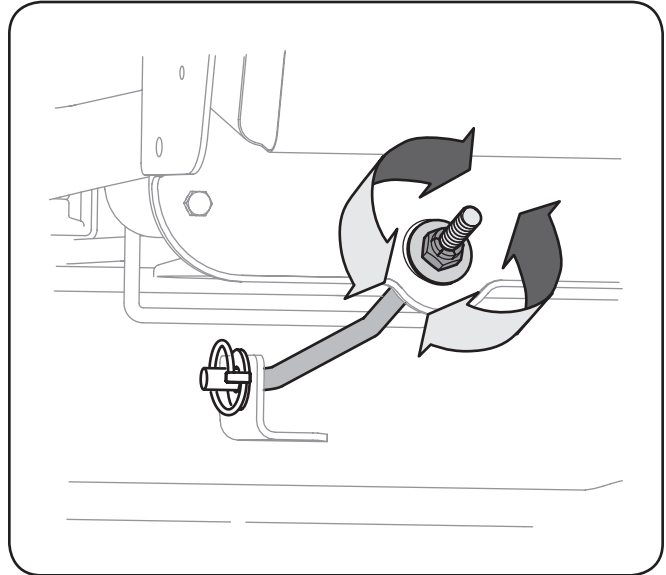

Figure 6-5
2. To *lower* the front of the deck, loosen (thread outward) the lock nut, away from the front hanger bracket. See Fig. 6-5.